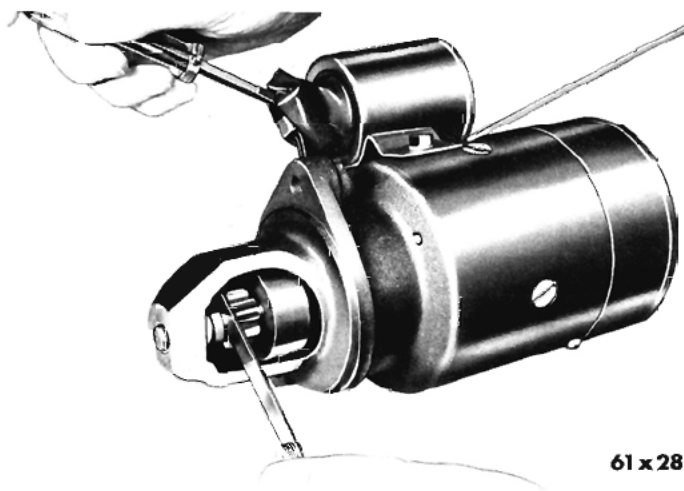

Fig. 13—Checking Starter Drive
(1) Place the starter assembly in a vise equipped with soft jaws and tighten the vise sufficiently to hold the starter.
(2) Push in on the solenoid plunger cage (Fig. 13) (NOT THE FORK LEVER) until the plunger bottoms.